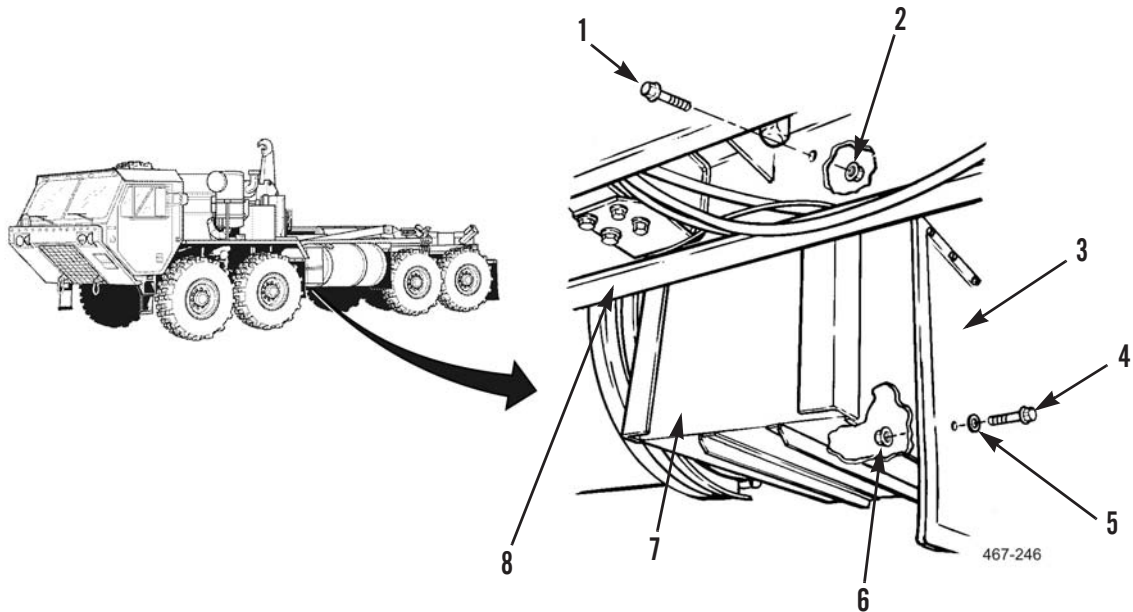

Figure 19. Stowage Box Installation.
58. Attach sling and lifting device to stowage box (Figure 19, Item 7).
59. Use lifting device to position stowage box (Figure 19, Item 7) on frame (Figure 19, Item 8).
60. Install four bolts (Figure 19, Item 1), and nuts (Figure 19, Item 2), securing stowage box (Figure 19, Item 7) to frame (Figure 19, Item 8).
61. Install washer (Figure 19, Item 5), bolt (Figure 19, Item 4) and nut (Figure 19, Item 6) securing mudflap (Figure 19, Item 3) to stowage box (Figure 19, Item 7).